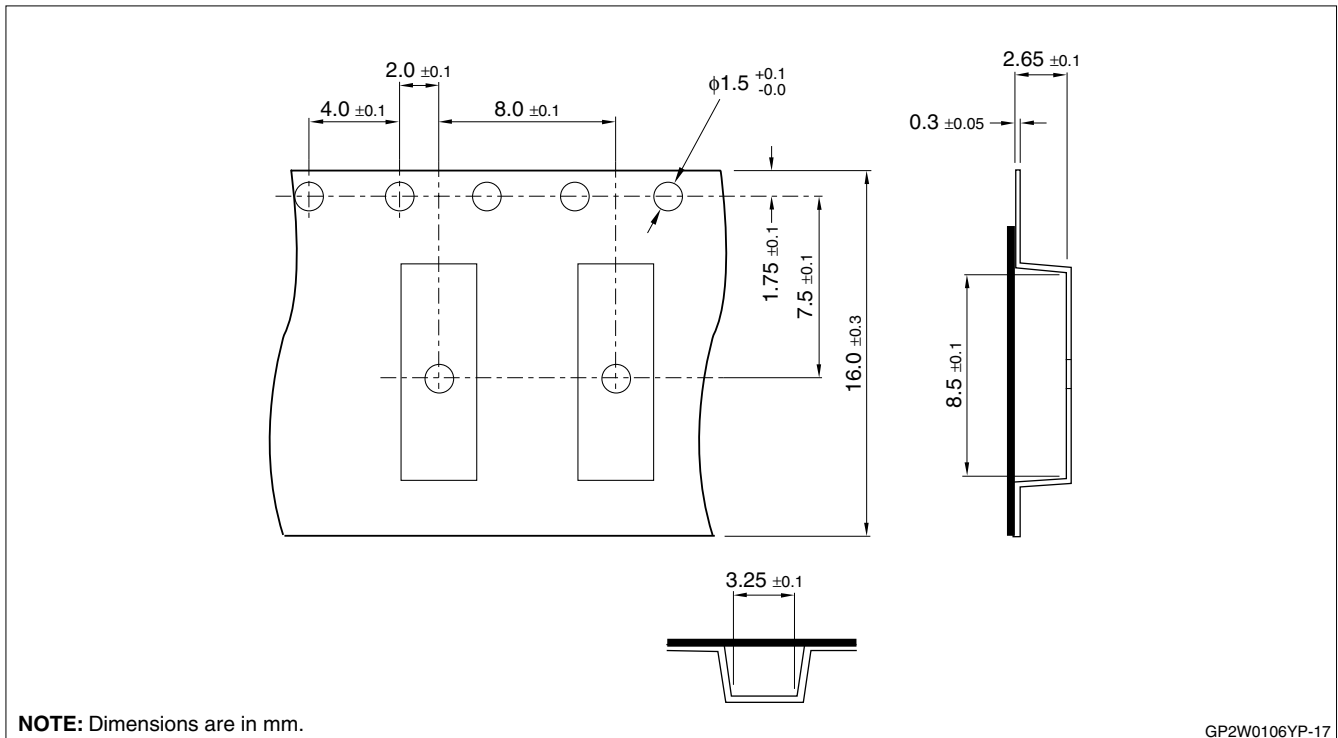

Figure 17. Tape Structure and Dimensions
- Taping structure and dimensions: The tape should have a structure in which a cover tape is sealed heat-pressed on the carrier tape of conductive PET. See Figure 17.